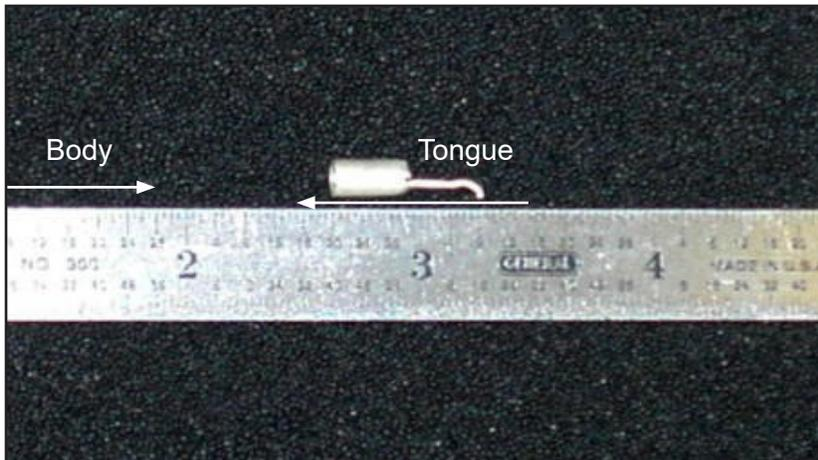
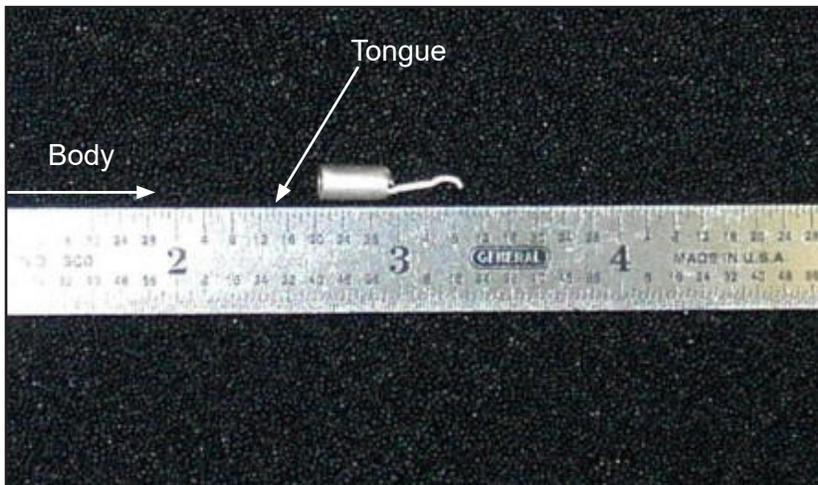

Figure 12 – Correct PIN Alignment
Figure 13 – Incorrect PIN Alignment
4. Rework the pin so that the tongue of the pin is in line with the pin body or at a slight downward angle. (Figure 12 shows the CORRECT alignment. Figure 13 shows the INCORRECT alignment).